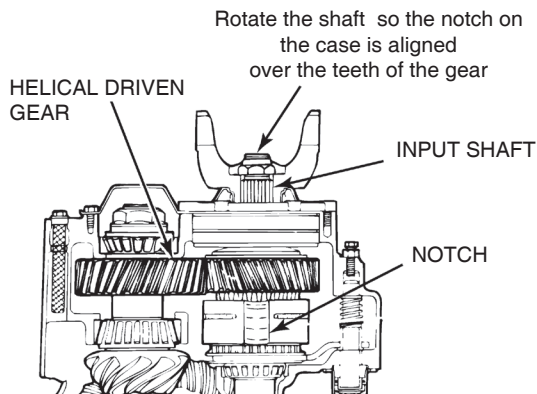
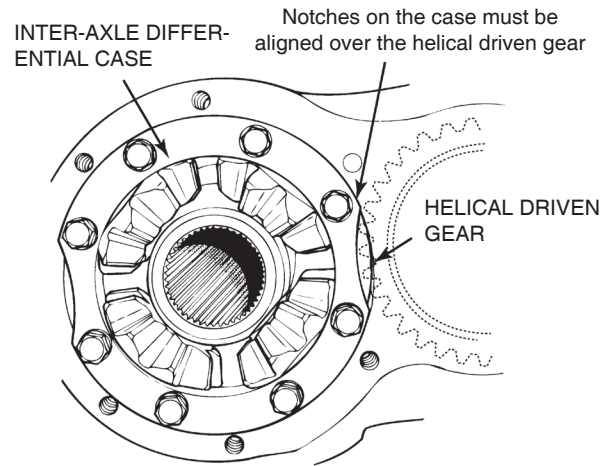

Figure 3.23
Figure 3.24
- If the input shaft assembly cannot be removed easily: The inter-axle differential case must be rotated. Rotate the input shaft until one of the notches on the case is aligned over the helical driven gear. Remove the input shaft assembly from the differential. Figure 3.23 and Figure 3.24.